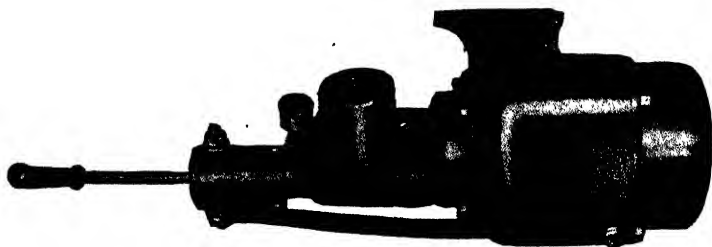
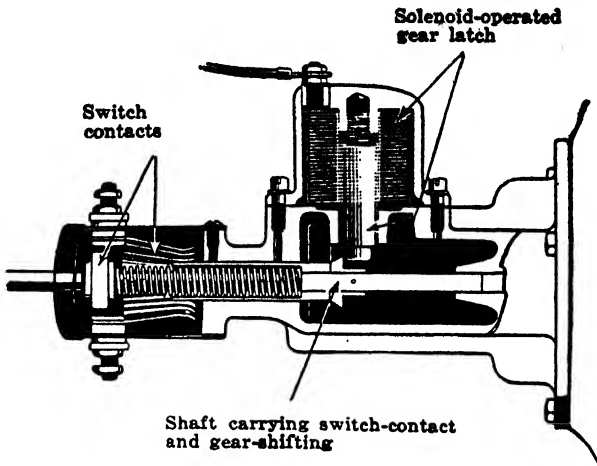
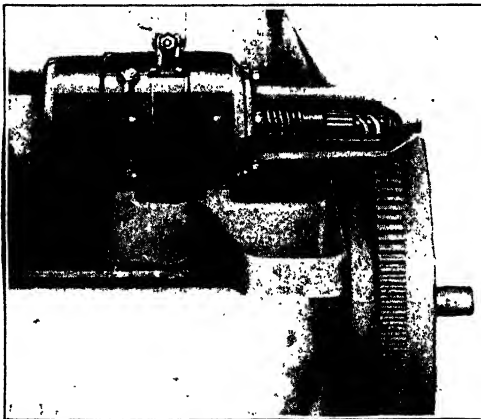

Fig. 221. Auto-Lite Starting Motor Used on Overland Models 80 and 81
Fig. 222. Sectional View of Auto-Lite Starting Switch and Gear Release
Fig. 223. Auto-Lite Starting Motor with Bendix Drive
**Starting Motor.** The starting motor is a series-wound multipolar type having four salient poles, Fig. 221 (used on Overland Model 80 and Model 81). In this type the switch is combined directly with the motor, being mounted in a housing at the left end as shown in Fig. 221. It is also fitted with a special locking device, the details of which are illustrated in the sectional view, Fig. 222. One of the buttons on the control board on the steering column closes the circuit of the solenoid shown in this illustration; this causes the plunger to lift and release what is known as the *gear-latch*. The shaft carrying the switch also serves to shift the pinion on the end of the starting-motor shaft into mesh with the flywheel gear. A later and more widely employed type of Auto-Lite starting motor is shown in Fig. 223; this is installed on the Overland Model